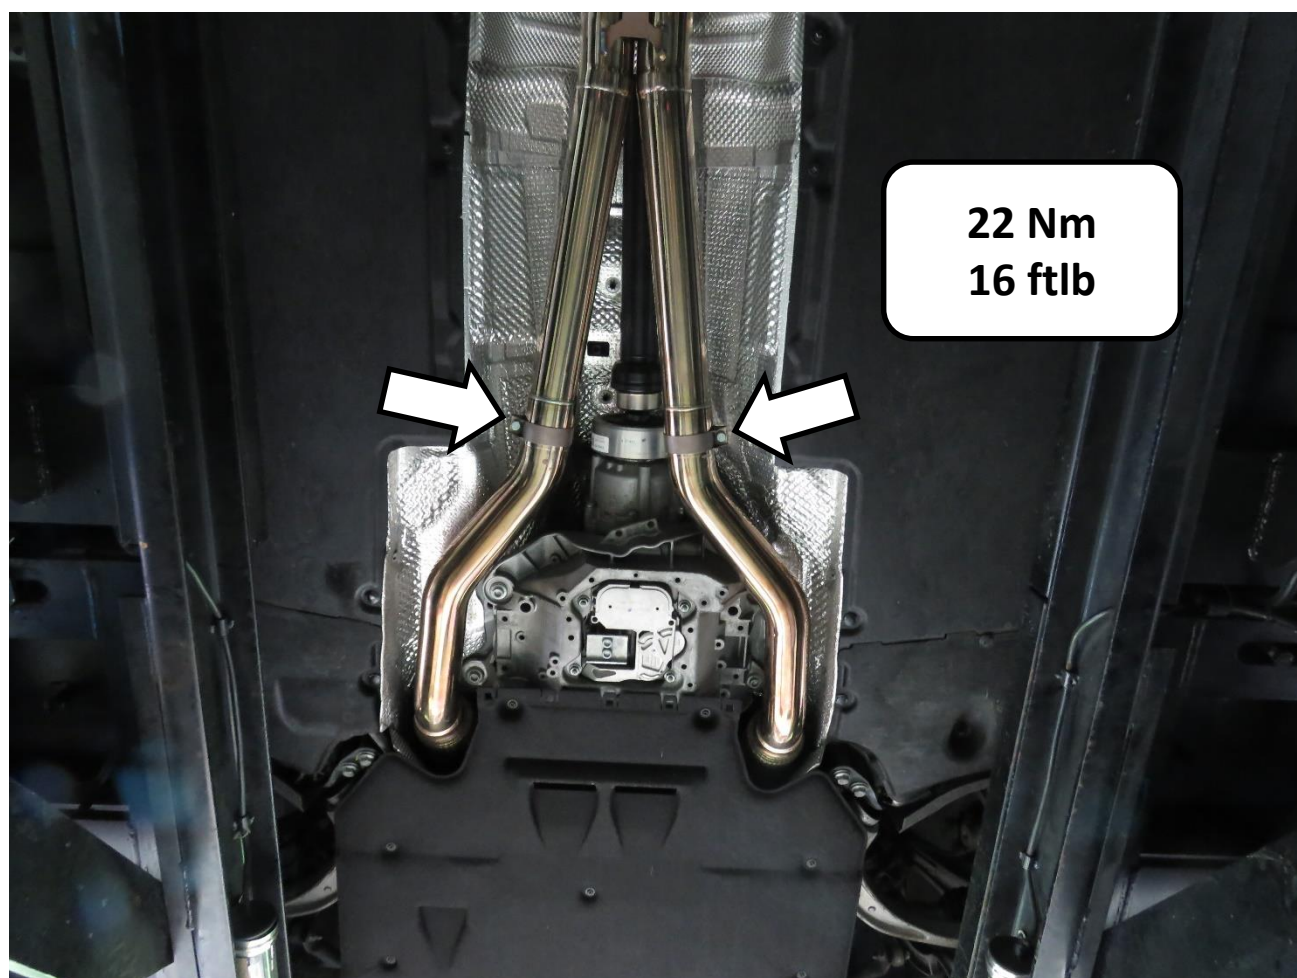

Figure 5
- 1) Position the iPE front part, put the sliding sleeve in position and prepare to connect with mid (Figure 5, 6).